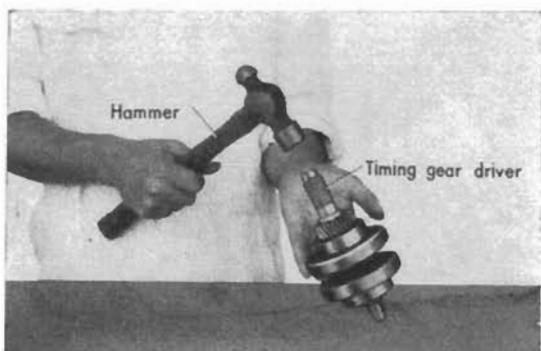

Fig. 3.44 Driving timing gear into position
6. Remove timing gear as shown in Fig. 3-44.